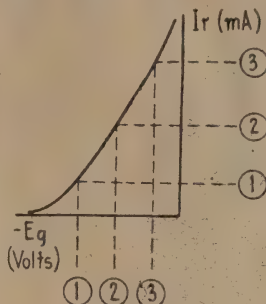

Fig. 33
If two things are related to each other in some way, perhaps the easiest way of describing the relationship is by drawing a graph which shows how one of the things varies when the other is altered. Take, for instance, a valve whose plate voltage is fixed. The other two operating quantities are the plate current and the grid voltage. In other words, if the plate voltage is fixed, we can vary the grid voltage, which will cause the plate current to vary. For every value of grid voltage there is a corresponding plate current that will flow. It is therefore possible to describe the behaviour of the valve completely for the given plate voltage by drawing a curve which shows how the plate current varies with variations of grid bias. Fig. 33 shows such a curve. It is
There are several points about the curve of Fig. 33 that are worth noting. First of all, the portion of the curve that applies to grid voltages between zero and some negative value (not specified on Fig. 33) is almost a straight line. That is to say, in this region, equal changes of grid voltage cause equal changes of plate current. This is most important, because it is only when this is true that the valve is able to
amplify without distorting the signal. We will have more to say about this in a later instalment, but even at this stage it is clear that the curves can give a very good indication of what will happen in a given circuit, for one of the things we are most interested in about amplifiers is the amount of distortion they cause. Now, on Fig. 33, negative grid volts are measured from the vertical line, to the left along
voltage. If Fig. 33 is examined, it will be seen that if the "curve" is a straight line, but not otherwise, the difference between the no-signal plate current and the maximum plate current will be equal to the difference between the no-signal plate current and the minimum plate current. If there is any curvature in the "curve," these plate current differences will not be equal, and distortion is indicated. It is even possible to estimate the amount of such distortion in some cases through the use of a simple formula. Fig. 33 is drawn to illustrate an actual valve, which in practice never has an exactly straight-line curve.
plate current is in finding the mutual conductance of the valve if this figure is not quoted in the data book, or if a figure is required for conditions other than those for which the mutual conductance is given. Suppose that the change of bias in going from position (2) on Fig. 33 to position (3) is exactly one volt and that the plate current (2) is 4 ma. and the plate current (3) is 6.5 ma. In this case, a change of grid bias of one volt causes a plate current change of 2.5 ma. The plate current change is therefore 2.5 ma. for each volt of grid-voltage change, or, in other words, 2.5 ma. per volt, and this is the mutual conductance of the valve between points (2) and (3) on the curve. Commercial valve-testers use the same principle for actually measuring the mutual conductance of the valve. Here the grid voltage is actually changed by one volt, and the change in plate current is read on a meter, thus giving the required answer, directly in milliamps per volt.
In the whole of this discussion, we have assumed that the plate voltage was fixed. However, it is possible to vary this as well as the grid voltage, so that the question crops up, "How does the curve given in Fig. 33 make allowance for changes in plate voltage?" The answer is that it does not. In other words, a single curve is not all that we need to display the operation of the valve under any conditions of plate voltage and grid voltage. The single curve of Fig. 33 tells us what happens under any conditions of grid voltage only for one particular plate voltage. (To be continued.)